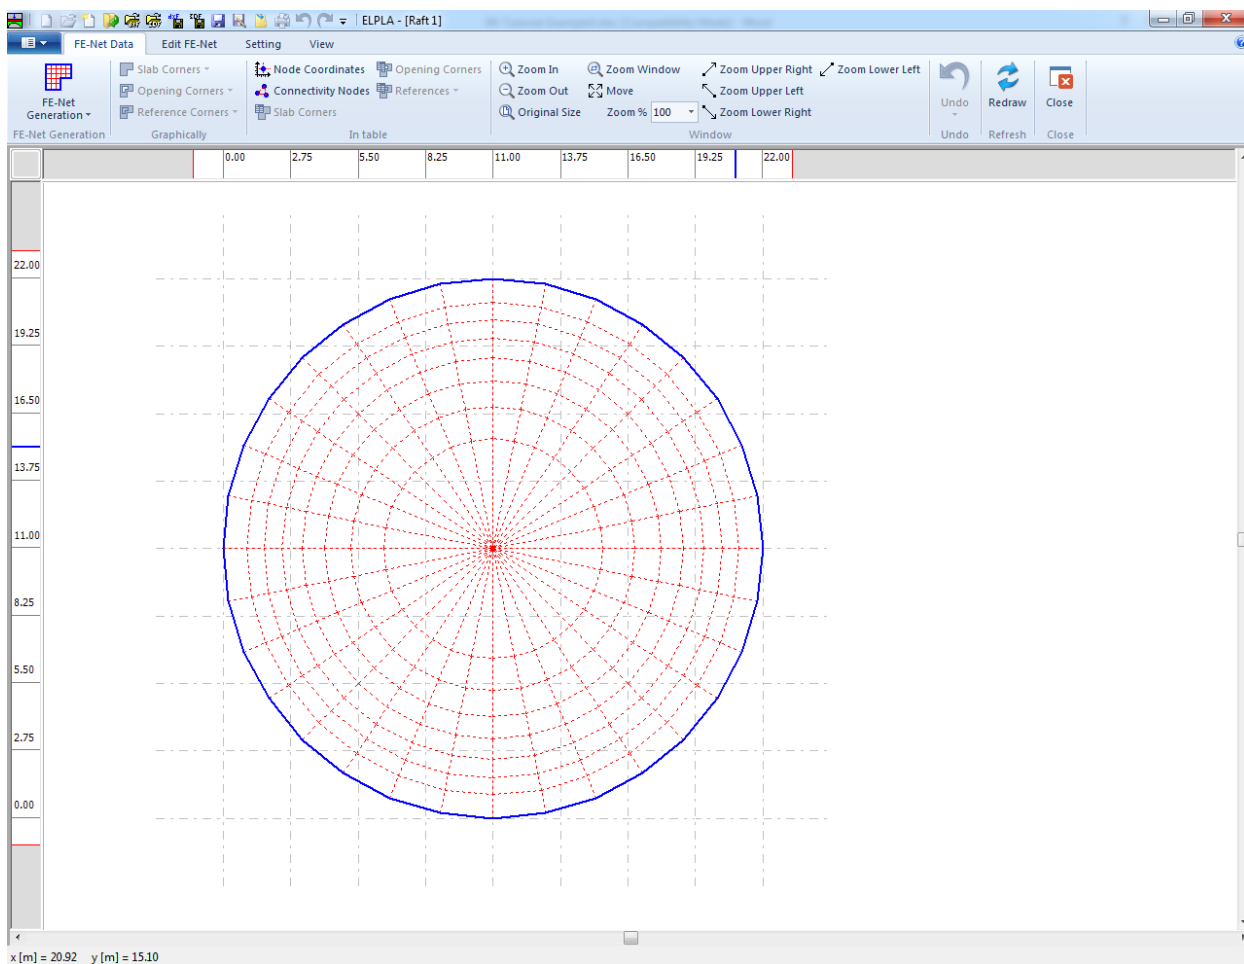

Figure 3.11 FE-Net
Click "Finish" button in the "Generation Parameters" form. *ELPLA* will generate a suitable FE-Net for the circular raft of 22 [m] diameter with a combination of triangle and rectangular elements, which have equal areas. The following Tab in Figure 3.11 appears with the generated net.
- Choose "Save" command from "File" menu in Figure 3.11 to save the data of the FE-Net
- Choose "Close" command from "File" menu in Figure 3.11 to close "FE-Net" Window and to return to the main window